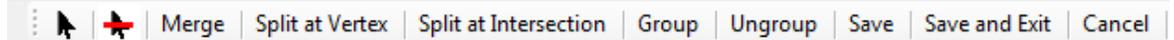

Figure 3-11. Toolbar for merging, splitting, and grouping geometry.
1. Click the merge/group button  to enter merge/group toolbar if merge/group controls (Figure 3-11) are not shown.